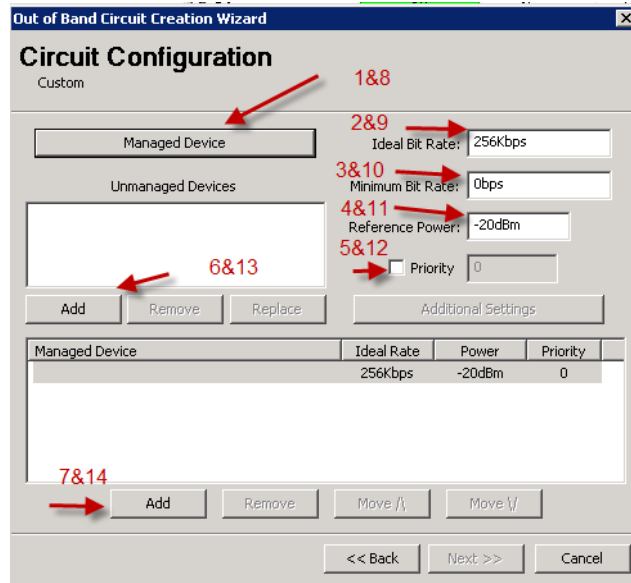

Figure 7-24 Circuit Configuration, Custom
35. Click the **Next** button to display the **Circuit Configuration** dialog (figure 7-24).